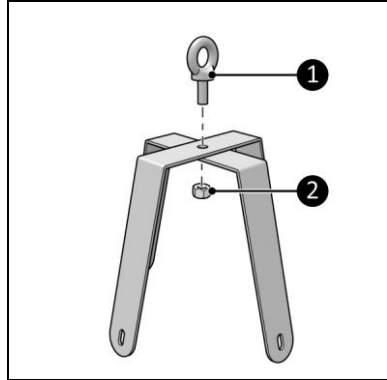

Figure 4
1. Screw and tighten both brackets together with the hanging eye (Figure 4, pos. 1) and the nut (Figure 4, pos. 2).